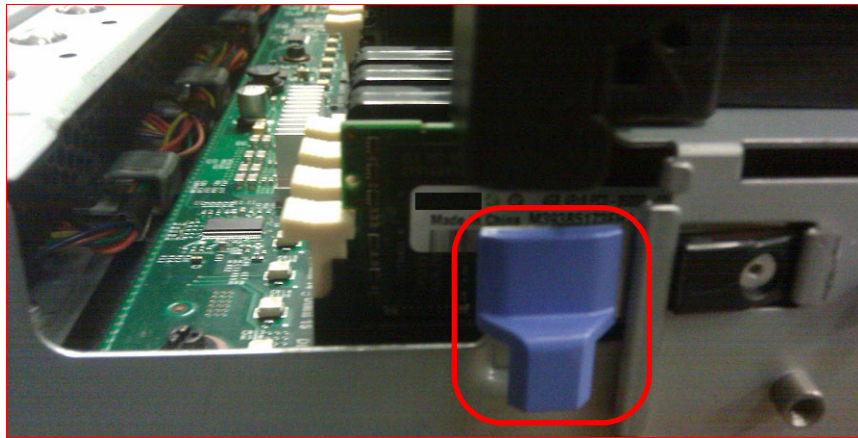

Figure 6-11 Final release tab for removing the MAX5 memory tray
4. You can pull the memory tray out about 30% before it stops. This design allows you to get a better grip of the tray on either side and then use a finger to push in another set of blue release tabs on either side of the tray, as shown in Figure 6-11.